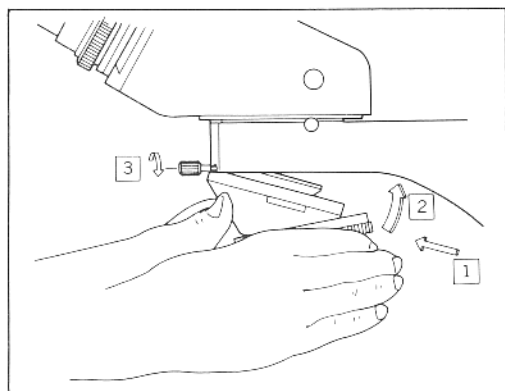

Fig. 28
3. Release the nosepiece clamp screw. Tilt the nosepiece with the objectives attached, and press the nosepiece against the clamp screw, as shown in Fig. 28. Seat it in horizontal position.